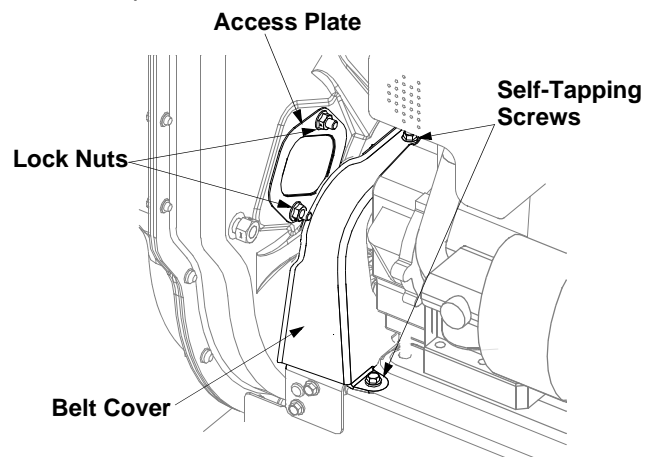

Figure 13
- Remove plastic belt cover from front of the engine by removing the two self-tapping screws. See Figure 13.
- Remove the access plate by removing two hex lock nuts. See Figure 13.
- Remove the plastic belt cover from front of the engine by removing two self-tapping screws. Refer to Figure 13.